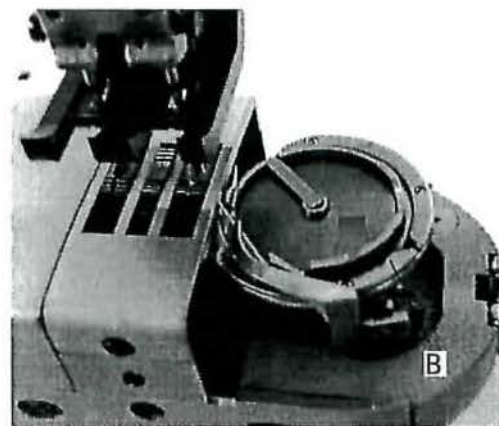

Fig.14
- 2) The tension on the bobbin thread is regulated by the screw of the tension spring on the outside of the bobbin case B (Fig. 14) .